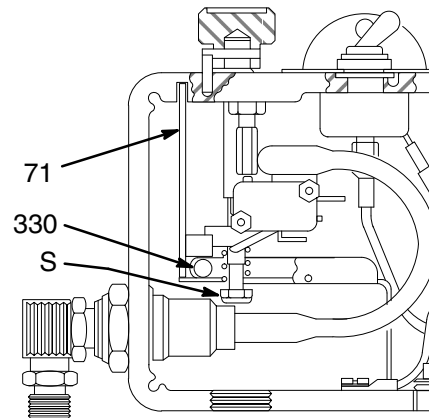

Fig. 18
**NOTE:** Refer to Fig. 18 and 19 for this procedure.
3. Turn the pressure to the minimum setting to release the spring tension on the board. Be sure that only three or four threads on the shaft of the pressure-control knob are exposed below the pressure-adjustment nut (S). Loosen the nut, if necessary.